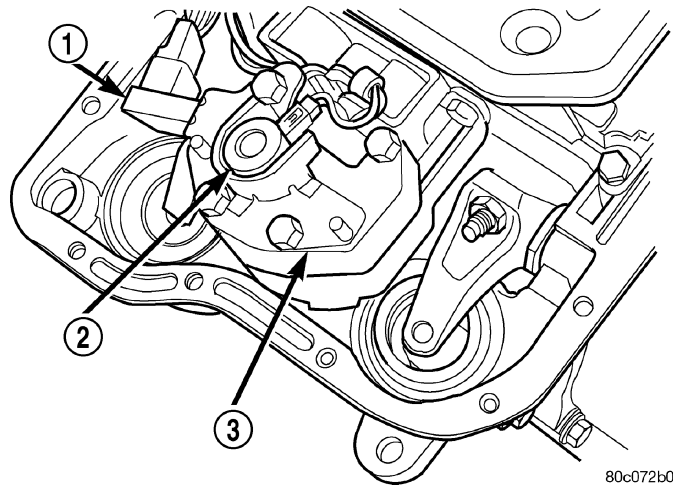

Fig. 1 Governor Solenoid And Pressure Sensor
3. Disengage the wire connector to the governor pressure solenoid valve (Fig. 1).